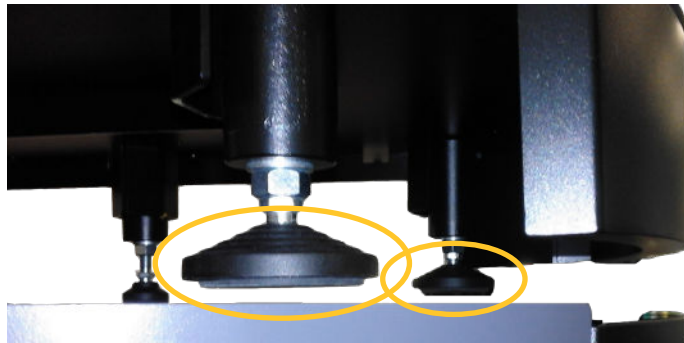

Figure 5
1) Raise the 2 anti-tilt stands (0) so that they are no longer in contact with the bench. (Figure 5)